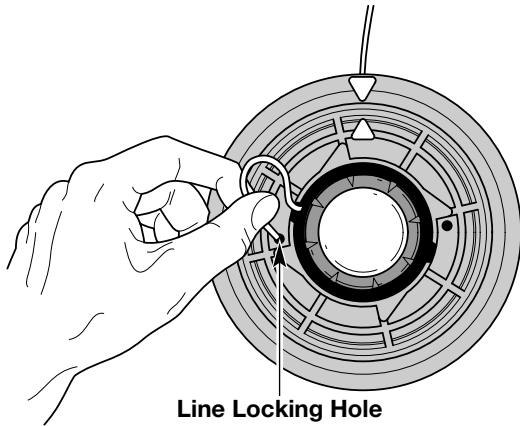

Fig. 15
5. Insert the line into the locking hole (Fig. 15). Do not push the line more than 1/2 inch (12.7 mm.) into the line locking hole. When inserted correctly the line will form a small loop (Fig. 15).